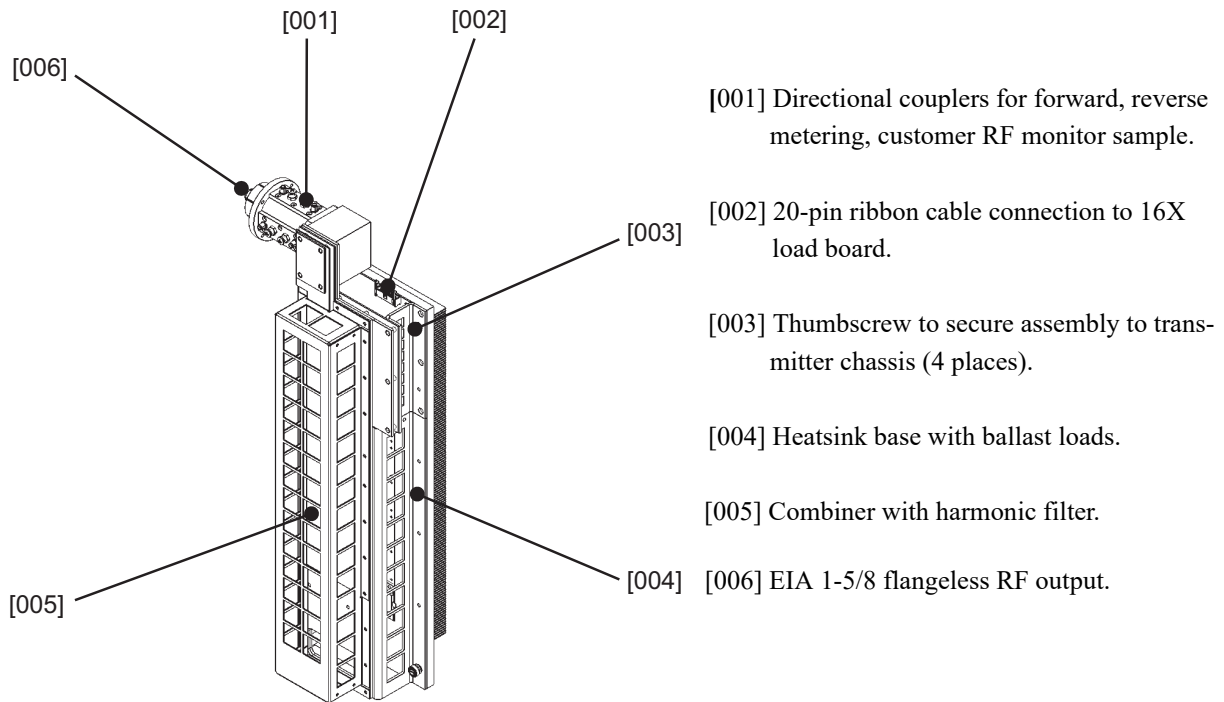
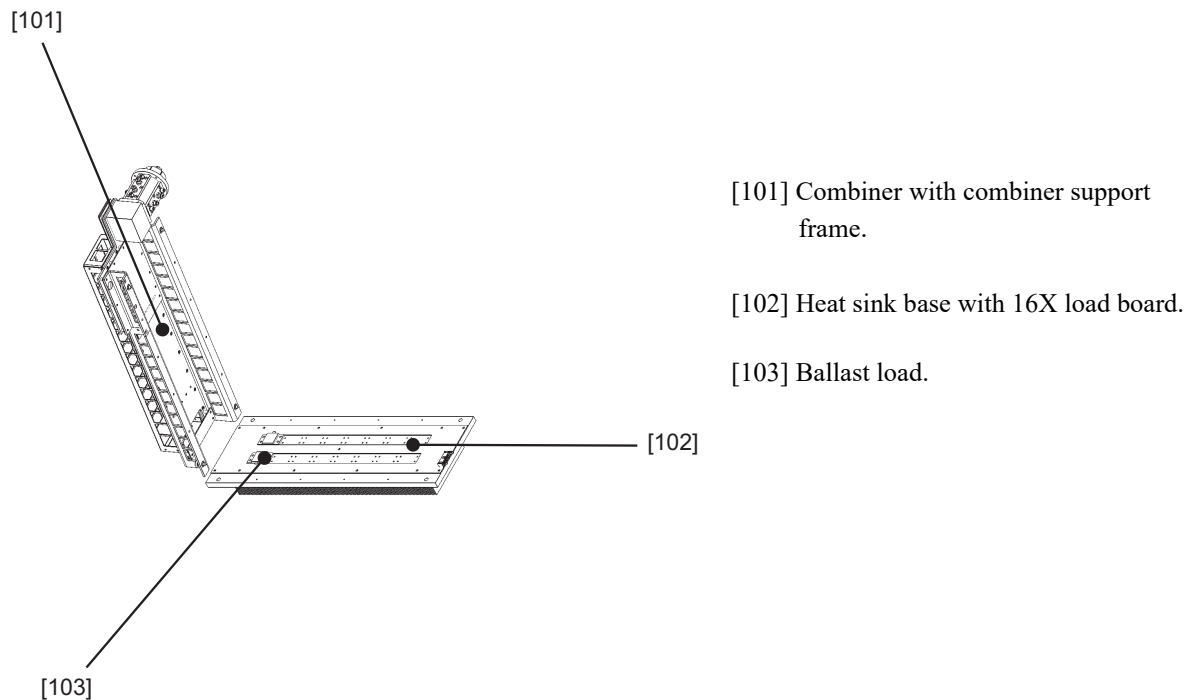

Figure 5-4 Output assembly
Figure 5-5 Output assembly opened for servicing.
Consult Figure 5-4 and Figure 5-5 to become familiar with the major parts of the output assembly.
STEP 2 Flip up combiner board to gain access to load (lower) board. See "Figure 5-5 Output assembly opened for servicing." on page 5-36.